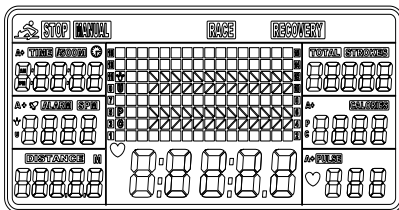
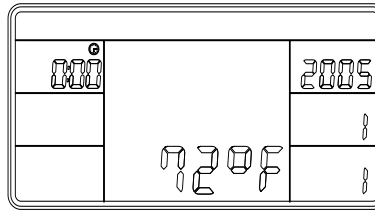

Fig. 1
Fig. 2
1. Install 2PCS AA batteries (included) and meter will beep for 2 seconds (Fig. 1). Then, the meter enters into the CLOCK & CALENDAR MODE (Fig. 2).